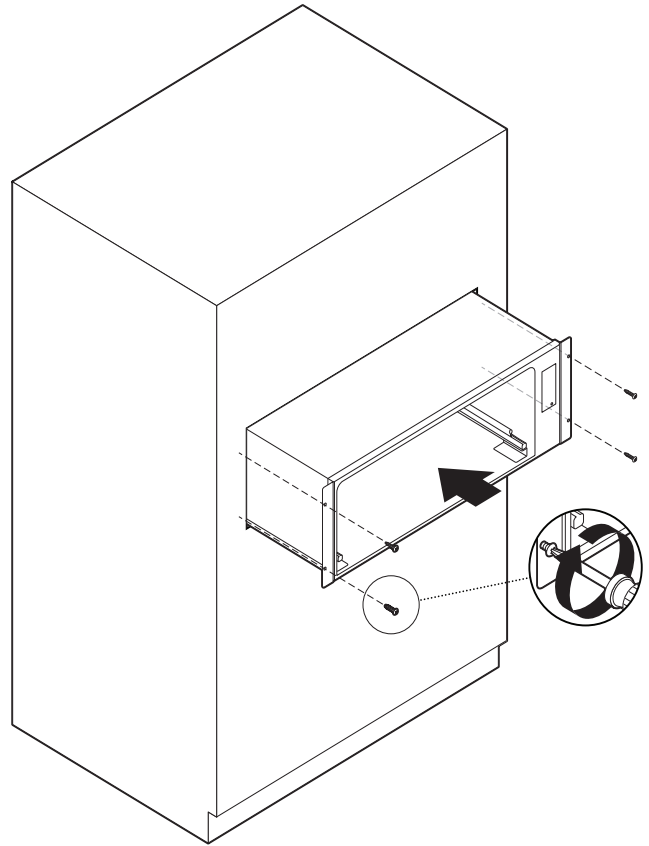

Figure 9: Secure Warming Drawer
- Secure with four (4) stainless Phillips screws through holes in front frame (Figure 9).